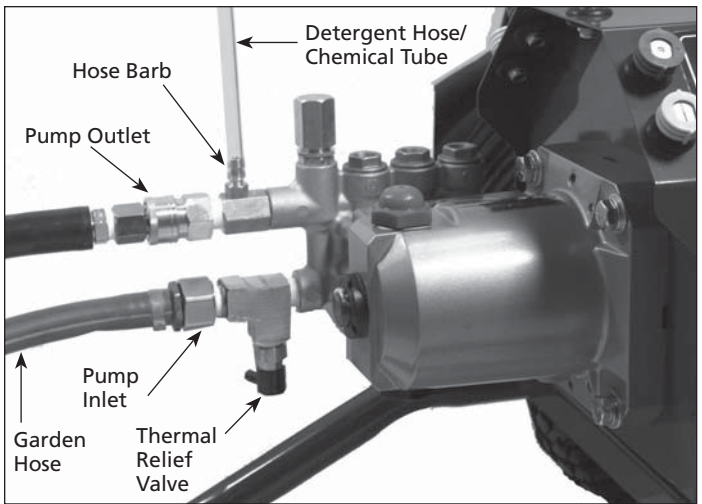

Figure 7 - Pump hook up
4. Secure garden hose (not included) to the inlet connection on pump (See Figure 7).